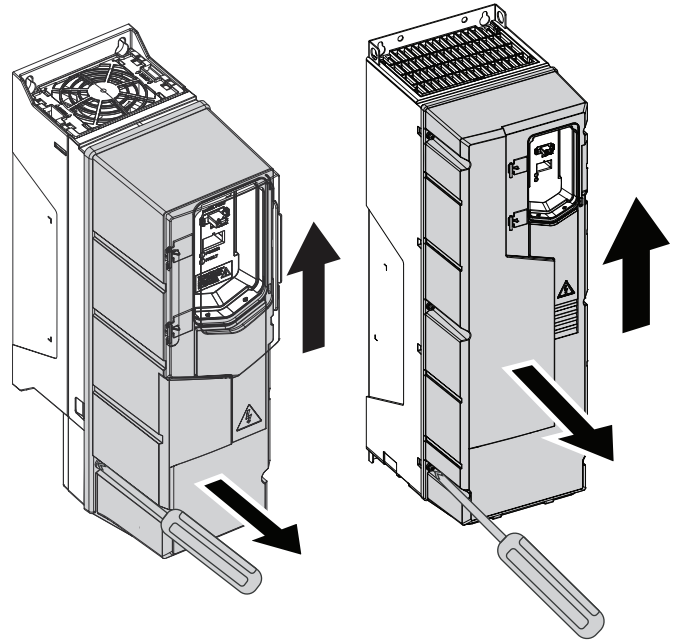

Fig. 61 — Remove Drive Cover (R1 and R2 Frame Sizes)
2. Remove the drive cover (see Fig. 61).